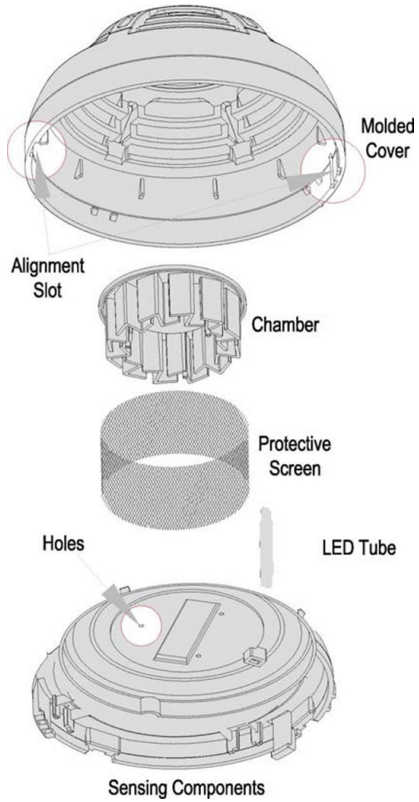

Figure 12
2. Remove the protective screen by pulling it straight out. (Figure 12).
4. Position the chamber and screen by aligning three tiny holes over the sensing component. (Figure 12).
5. Align the LED tube and tabs and gently push the cover until it locks into place. (Figure 12).